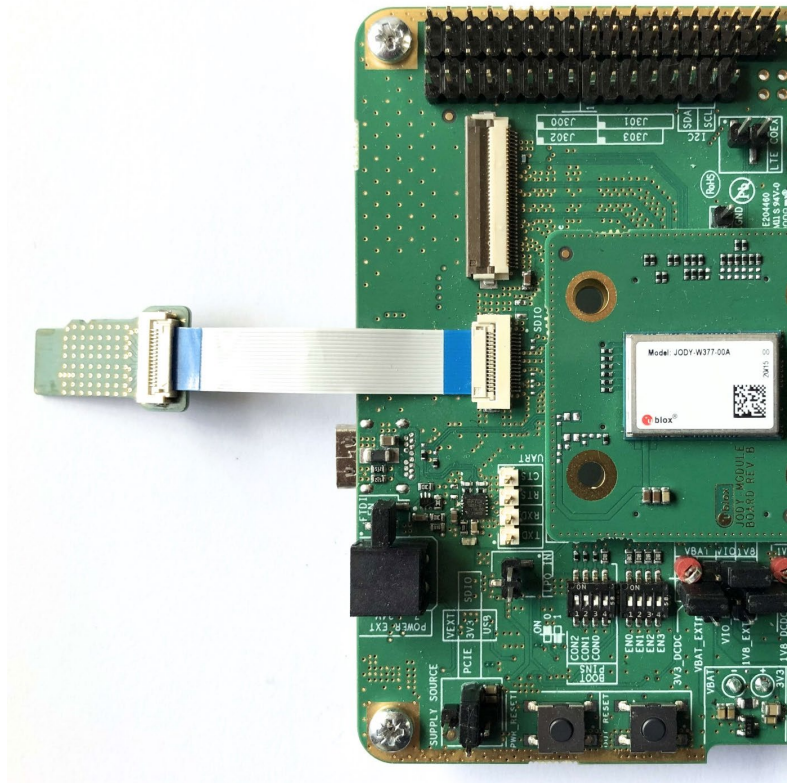

Figure 3: SDIO connector
- For SDIO connection, connect the micro SDIO adapter card with the flat cable to the SDIO connector (J204) on the EVK as shown in Figure 3 and insert the adapter card into an SDIO connector of the host system. The SDIO interface can be used for Wi-Fi, and optionally